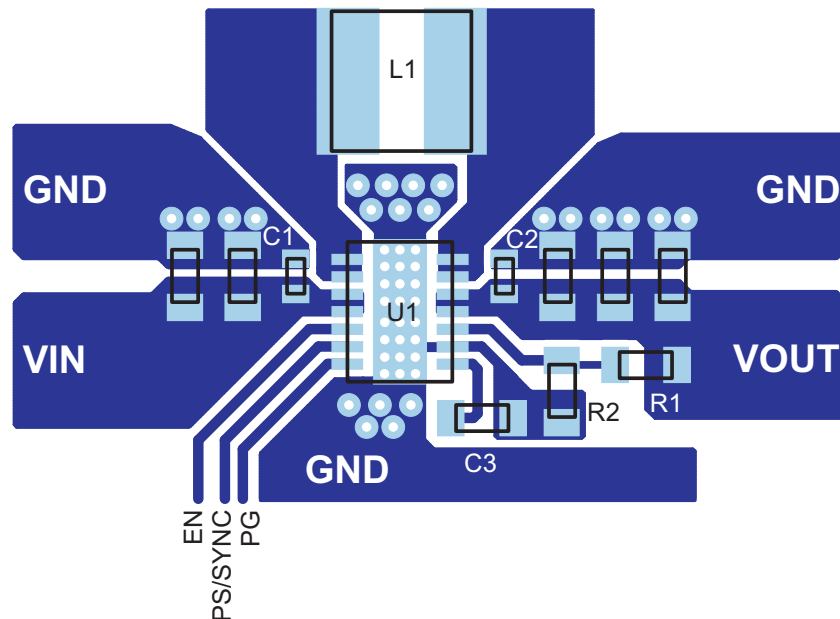

Figure 23. PCB Layout Suggestion
- Updated Figure 23 - PCB Layout Suggestion ..... 19